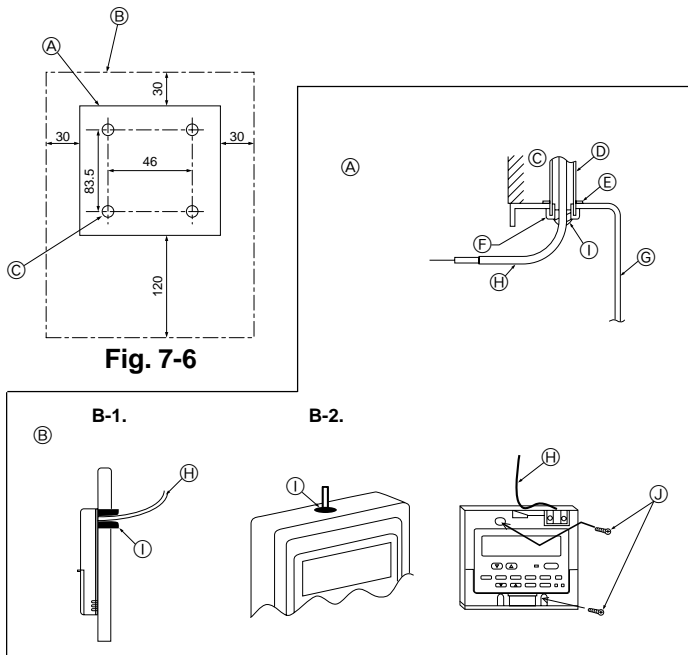

Fig. 7-7
- (2) Seal the service entrance for the remote controller cord with putty to prevent possible invasion of dew drops, water, cockroaches or worms. (Fig. 7-7)